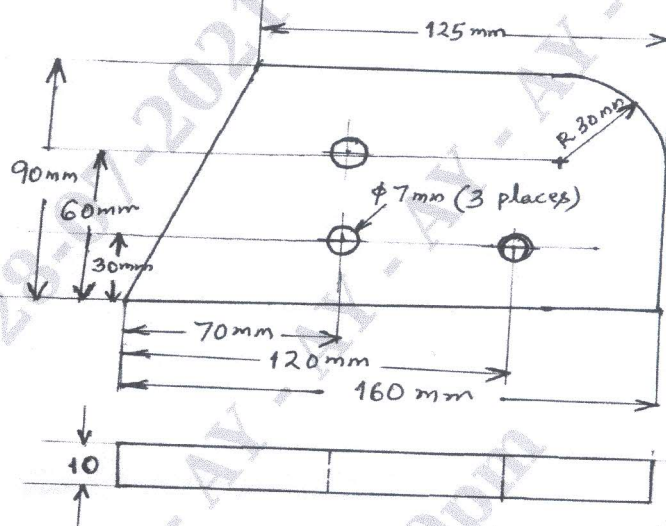

Fig. Q10(b) : A simple part depicting drilling operation
- b. Write an NC part program for the part shown in Fig. Q10(b) depicting drilling operation. Use the following data :